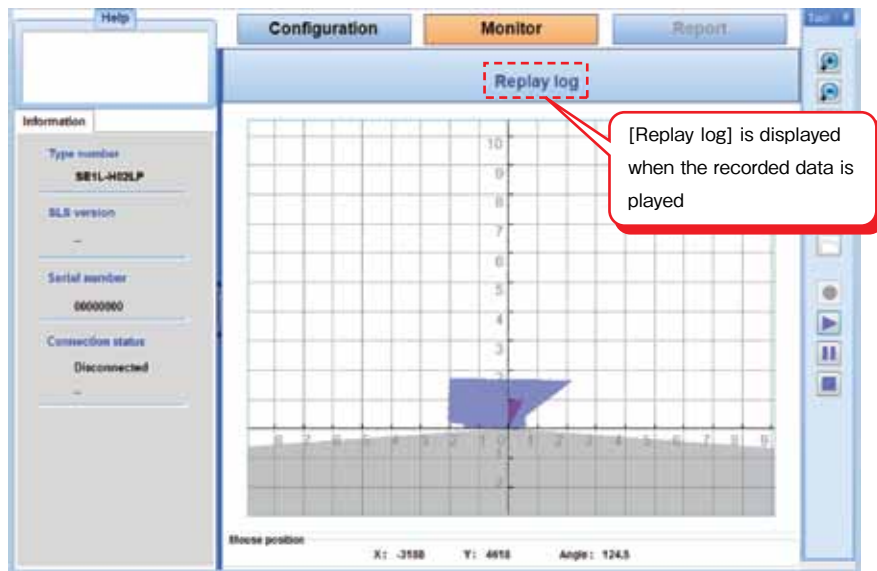

Figure 7-60. Replay log
- To play the recorded data, click the [Play] button, select the recorded data, file. Recorded data will be played automatically once the file is selected. [Replay log] is displayed when the recorded data is displayed as shown in figure 7-60.